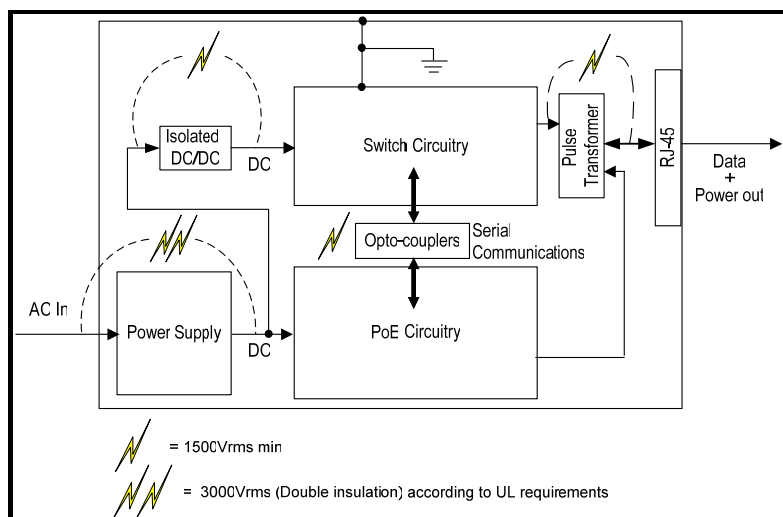

Figure 4: Switch Circuitry with a Single DC Source
- A single DC input (separate power supplies) for both the switch and PoE circuit; additional or integrated isolated DC/DC circuitry for the switch input and isolated serial communication port between the PoE circuitry and the switch's circuitry (see Figure 4).